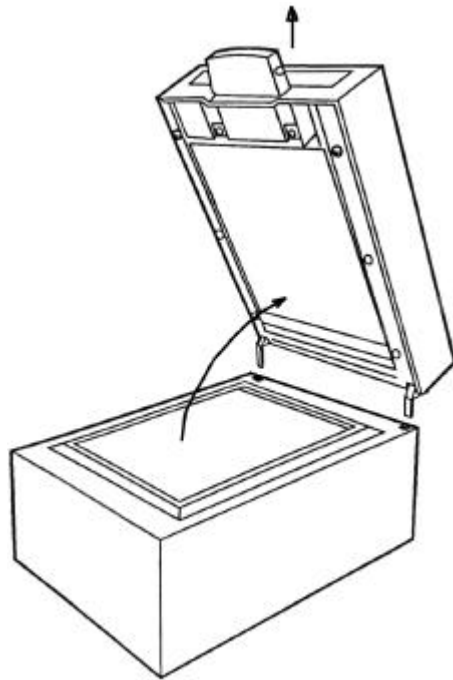

fig. 4.5
- 2) open the ADF and pull it upward (see figure 4.5).
- 1) remove ADF and CP (see figure 4.5 and 4.6)